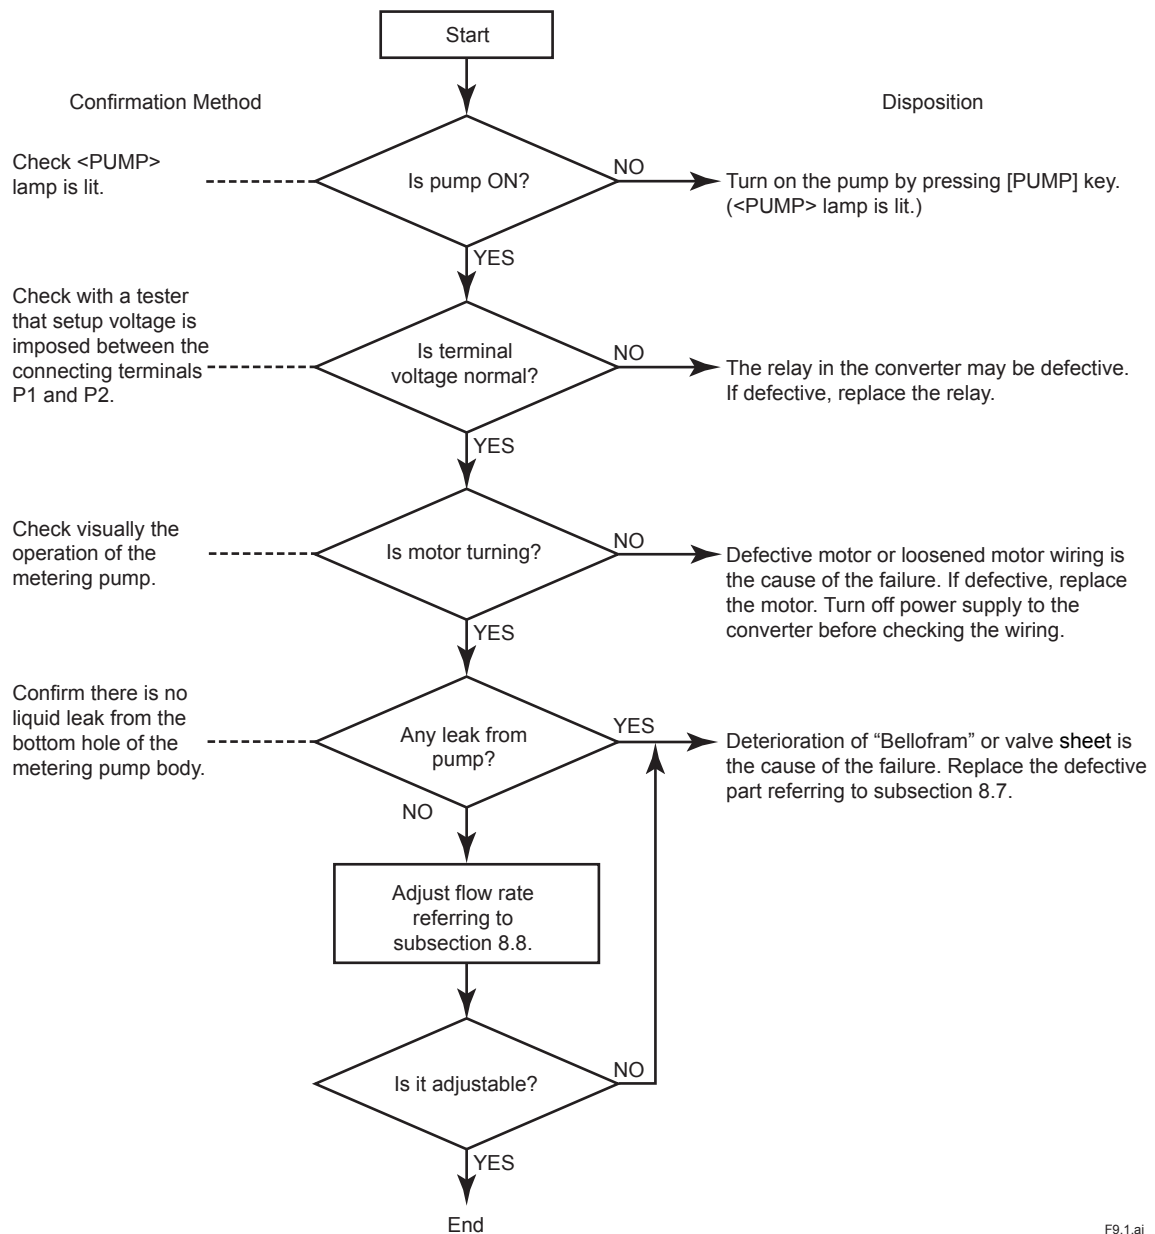

Figure 9.1 Metering Pump Inspection Flow Chart
- (c) Confirm the operation of the metering pump following the inspection flow chart shown in Figure 9.1.
(4) Error code “Err22” (sensitivity failure):
- (b) Check the metering pump operation following the inspection flow of Figure 9.1.